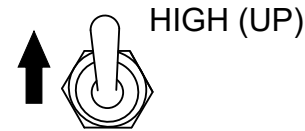

Figure 60. Engine Speed Switch (High Position)
2. Place the **Engine Speed switch** in the **HIGH** position (Figure 60).